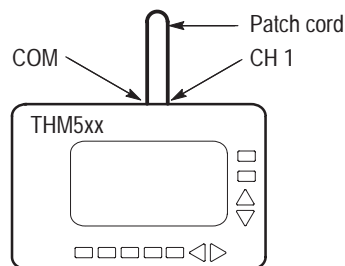

Figure 4: Noise test setup
2. Use a patch cord to short the THM500 series instrument COM and CH 1 inputs as shown in Figure 4.